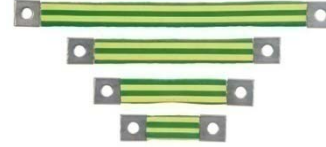

Figure 3. Panduit Flat Braided Bonding Straps, One-Hole, Insulated.
- Bond multiple sub-panels together using 1" wide short flat braided bonding straps to create one large ground plane (see Figure 3).